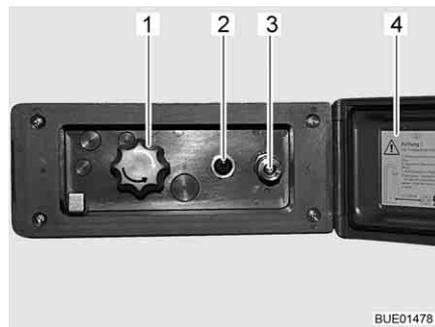

Fig. 107 External shower connection point
- Unlock and open the cover (Fig. 107,4).
- Attach hose of the external shower to the quick closure (Fig. 107,3).
- Switch on the water pump using the switch (Fig. 107,2).
- Adjust the water temperature with the rotary knob (Fig. 107,1) as desired.
- Switch off the water pump using the switch (Fig. 107,2).
- Close the cover (Fig. 107,4) and lock with key.
- Turn knob (Fig. 107,1) to the centre position.